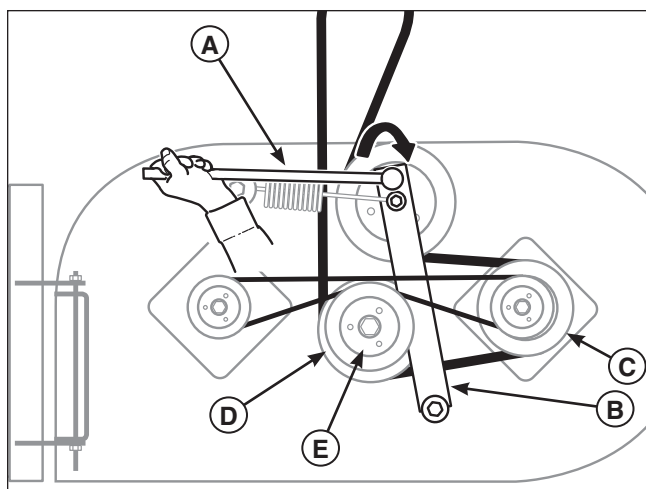
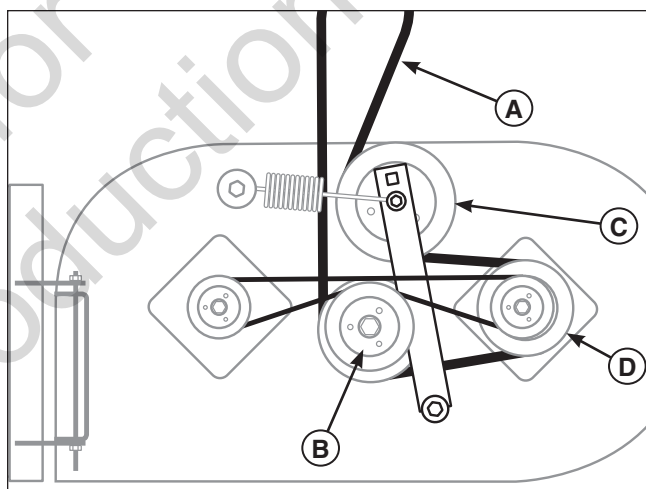

Figure 33. Remove the Cutter Deck Belt
Figure 34. Deck Drive Belt Routing
3. Using a 1/2" breaker bar (A, Figure 33), place the square end in the square hole located on the end of the idler arm (B). Carefully rotate the breaker bar **clockwise**, which will relieve the tension on the belt exerted from the idler arm.
4. Slide the mower drive belt over the edge of the left spindle pulley (C). Carefully release the tension on the breaker bar.
6. Install the deck drive belt (A, Figure 34) on the PTO pulley, the center idler pulley (B) and the adjustable idler pulley (C). Make sure that the V-side of the belt runs in the grooves of the pulleys. Do not install the deck drive belt on the left spindle pulley (D) at this time.